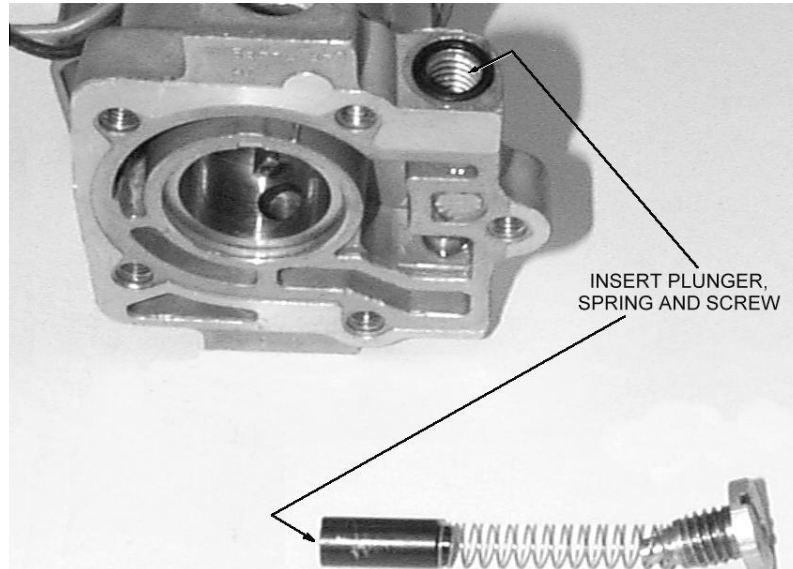

Figure 8
7. If the relief plunger is rusty, clean it with emery paper. The plunger must slide freely in the base. Check the plunger, spring, and o-ringed screw. Check that plunger is free in the slide. See Figures 8 and 9.